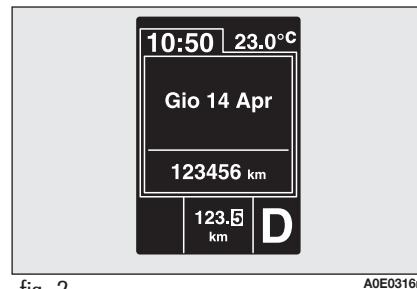

fig. 2
DISPLAY fig. 2
- in automatic operation, the gear selected (**P, R, N, D**) **fig. 2**;